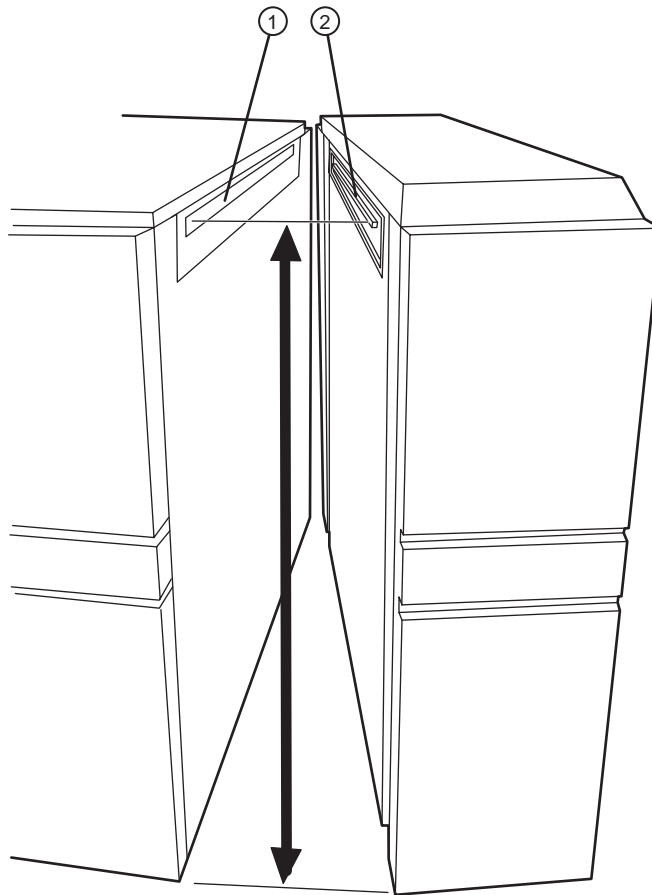

Figure 1-17 Measuring from the floor to the platen for correct OLP To Buffer Alignment.
- ①—Buffer interface. ②— OLP front plate. ③—Lower platen of entry rack.
④—Upper platen (removed during the interface alignment).
7. If the interface is off, follow these steps. With the imagesetter/buffer and OLP in close proximity, measure the distance from the floor to the buffer exit platen and the floor to the OLP entrance platen. Refer to Figure 1-17.